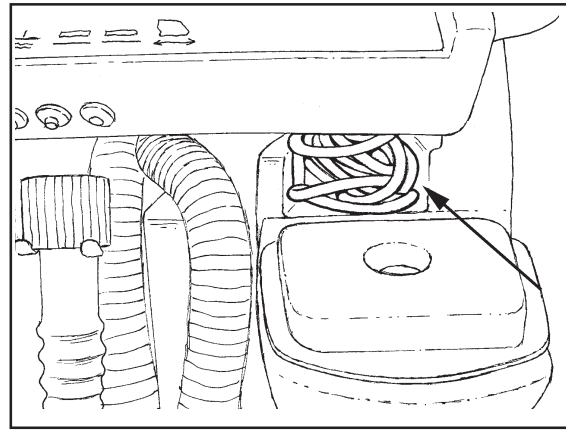
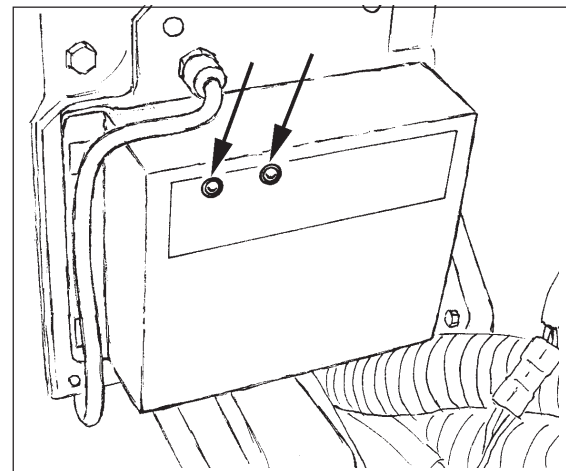

Figure 16
Figure 17
5. The FOCUS 17/20 is equipped with an on-board charger located behind the recovery tank (See Figure 17). The charger is a 3-stage charger designed to maximize battery life. The AC power cord to the on-board charger is located in its storage compartment under the control handle at the rear of the machine (See Figure 16). Pull the cord out of the storage compartment.
- **Bulk Stage** - In the bulk stage of charging, the red light is illuminated on the charger (See Figure 17). During this stage the charger is supplying its full amp output to the batteries. It will continue to charge the batteries at this rate until the batteries reach approximately 75% of their capacity.
- **Absorption Stage** - In the absorption stage the red and green light will be illuminated on the charger (See Figure 17). During this stage the charger maintains constant voltage and lets the batteries absorb the charge at their own rate.
- **Float and Maintenance Stage** - In the maintenance stage the red light turns off and only the green light will be illuminated on the charger (See Figure 17). During this stage the charger applies a lower, closely regulated voltage to maintain full charge and prevents discharge. Batteries can be connected indefinitely without harm.
8. Unplug charger power cord from the wall outlet before powering up control panel on machine. Store the charger power cord in the storage compartment located under the control handle (See Figure 16).